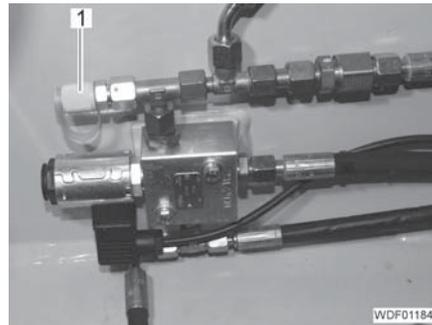

Fig. 15 Test connection
- Connect the test pressure gauge to the test connection (Fig. 15,1) of the solenoid valve.